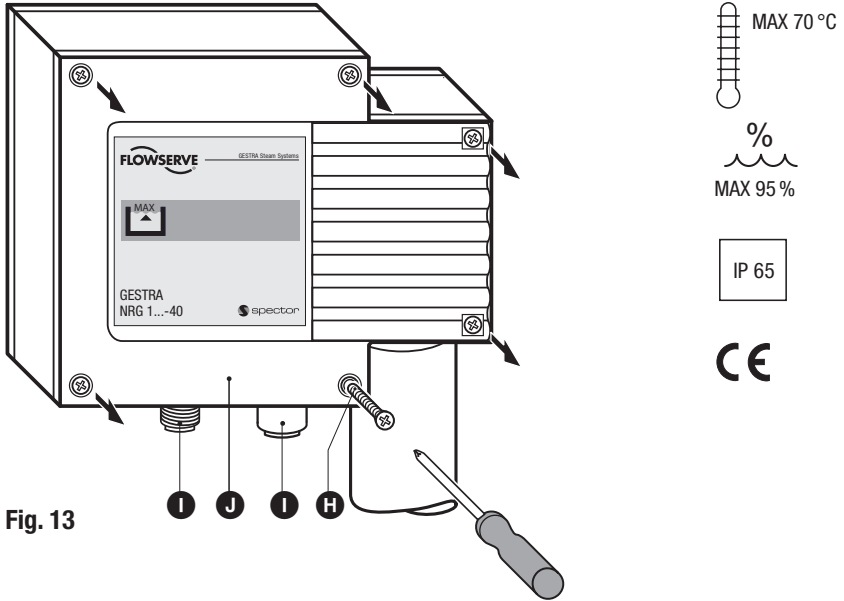

Fig. 13
1. Undo screws  and remove housing cover . **Fig. 13**